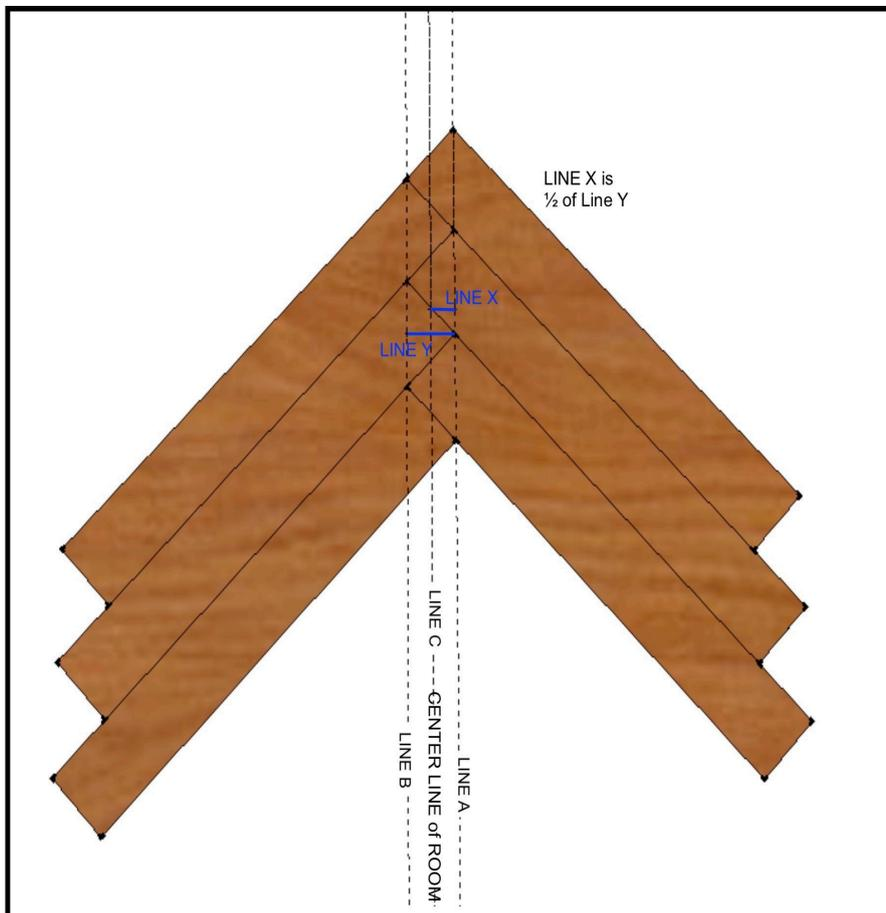

Figure 2
8. To find the working lines, begin by laying out a few alternating slats. (See Fig.2 on page 5).